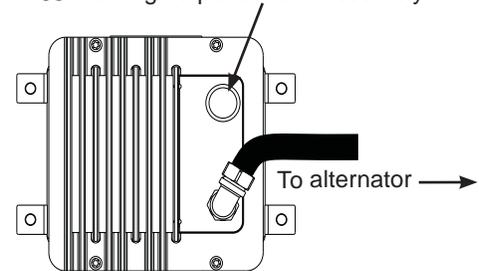

Figure 7 - A8-208 Rectifier-Regulator Cover Connections
3. Connect rectifier-regulator to alternator with wiring conduit shown in Figure 7 and 8.